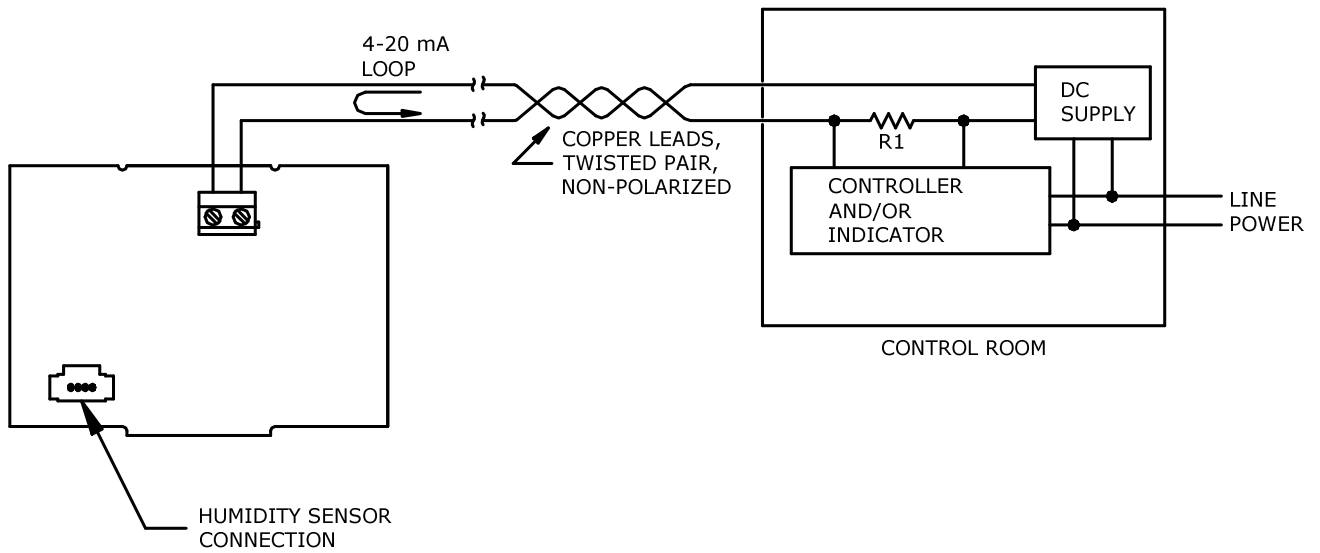

Figure 2
3. Remove transmitter cover and connect power wires to the transmitter by 2 screw terminals located near the edge of the circuit board (figures 2 and 4). Power supply must not exceed 35 VDC.